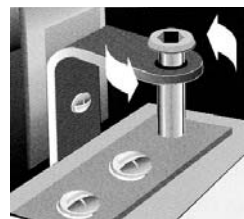

Fig. 6
c) Remove the M5 hex screw from the top hinge bracket and push down on the spring loaded cartridge top (fig. 6). The door is then free to be pulled clear of the top hinge bracket and then lifted clear of the bottom hinge bracket (fig. 6).